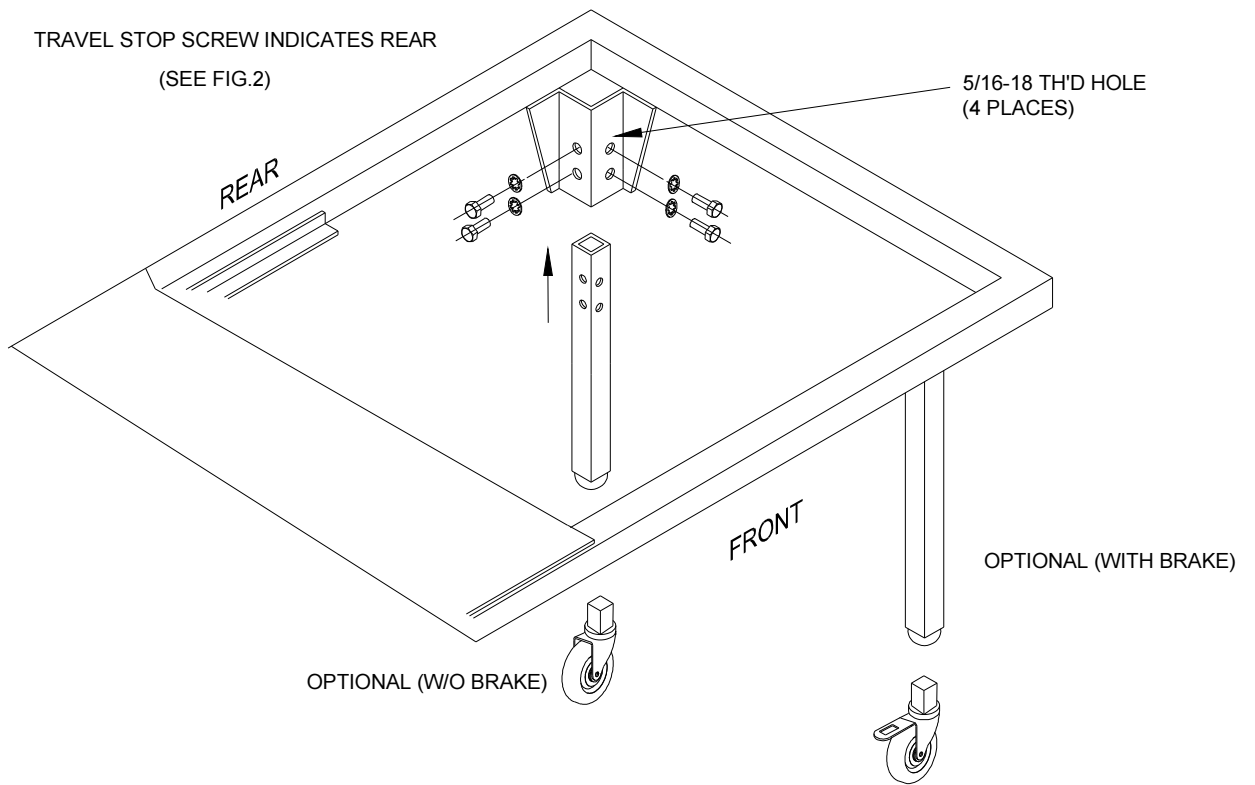

FIGURE 1
2. Assembly of the unit requires only attaching the four legs to the tabletop (see fig. 1).
**Note: Make sure all leg mounting bolts are mounted tightly. See figure 1 for assembly of optional version with roller casters.**